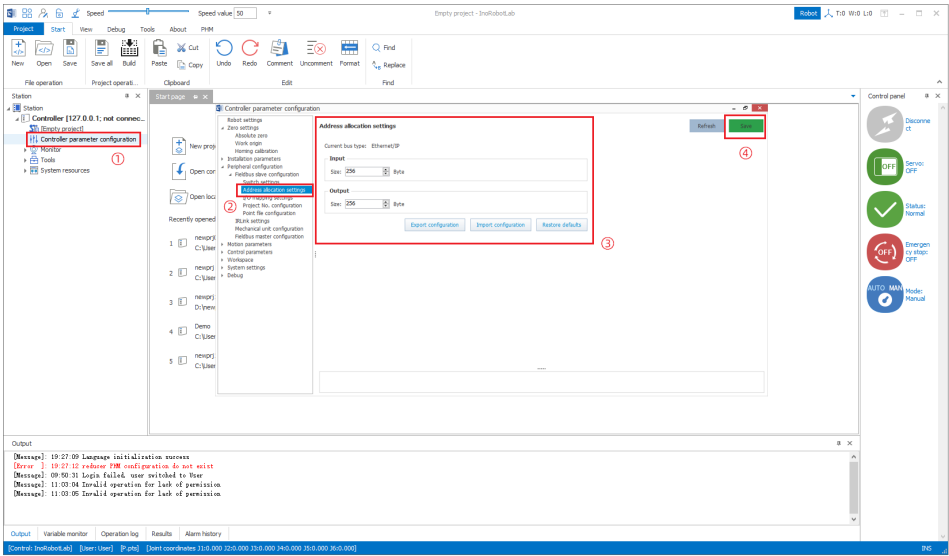

Figure 5-23 PROFINET Bus address allocation settings
1. On the main interface of the InoRobotLab software, click "Controller parameter configuration" > "Peripheral configuration" > "Fieldbus slave settings" > "Address allocation settings" to enter the address allocation settings interface, as shown in Figure 5-23.